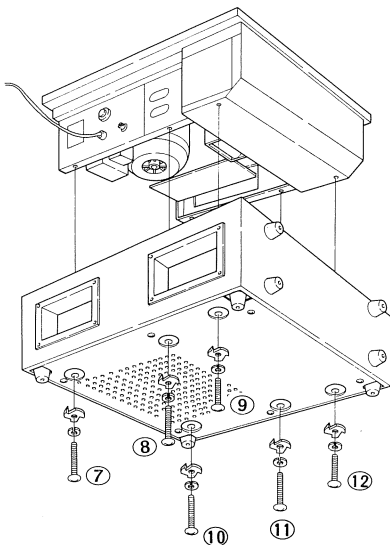

Fig. 7
1. Remove the six screws (7 ~ 12) and the claw washer shown in Fig. 7, then lift the unit from the wooden cabinet.